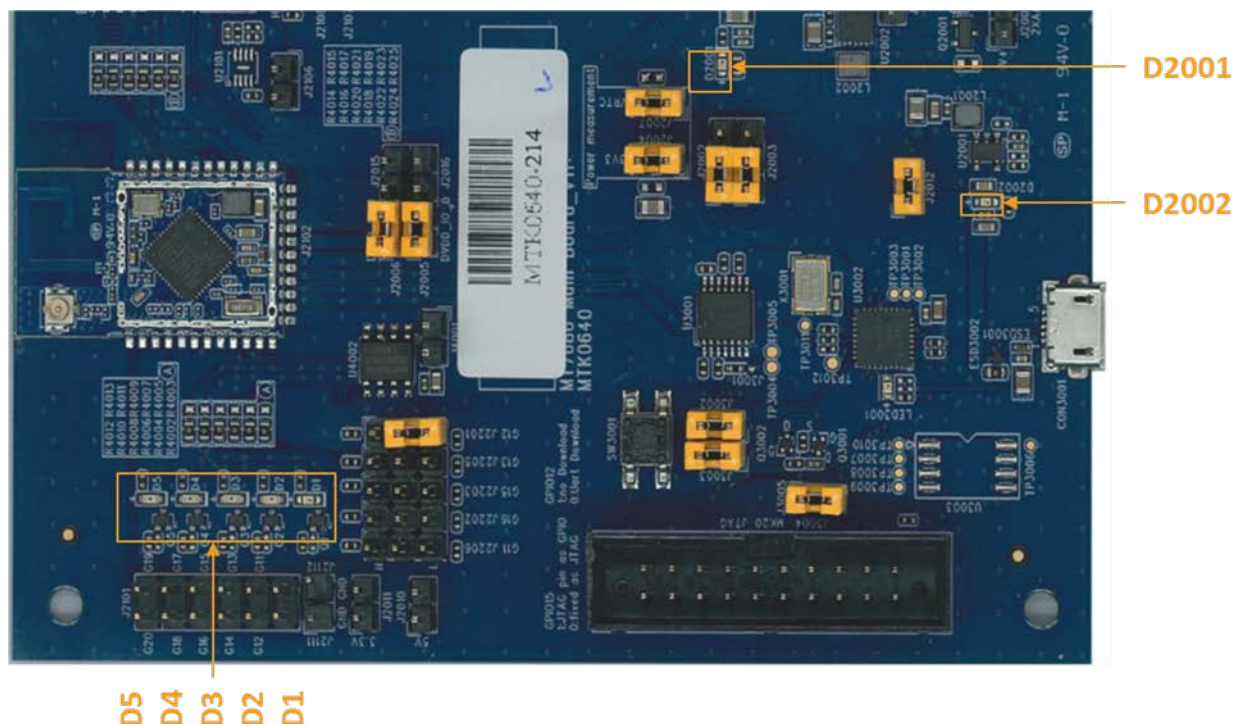

Figure 6. On-board LEDs
The MT7686 HDK has onboard LEDs associated with different functionalities of the board (Figure 6).
3) **D1, D2, D3, D4, and D5** are LEDs assigned for user interaction. All LEDs are high active (Figure 6). GPIO pins to activate the LEDs are shown in Table 3.